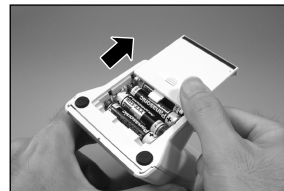

Fig. 3
- ① Remove the batteries after sliding the battery cover on the back of the unit in the direction of the arrow. (Fig. 3)